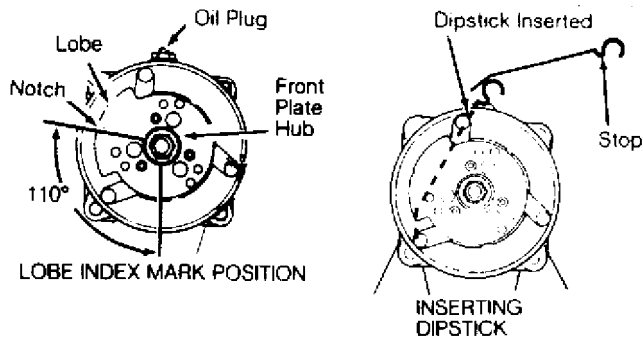

Fig. 1: Sanden 5-Cylinder Oil Level Checking
1) Discharge system using approved refrigerant recovery/recycling equipment. Remove compressor belt and loosen mounting bolts. Rotate compressor in brackets until filler plug is at top. Clean area around filler plug and remove plug slowly. Rotate front hub plate so notch in lobe is 110 degrees from the bottom. This rotates ball end of top piston to align with oil fill port and allows clearance for dipstick. See Fig. 1.